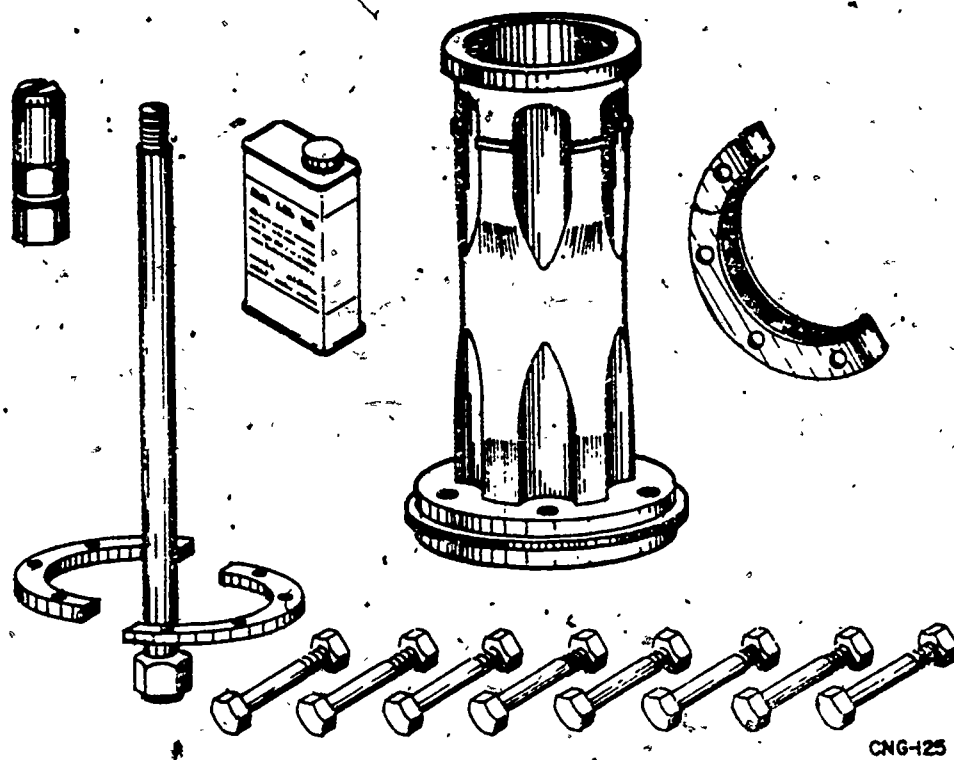

Figure 7-7 Hydrant extension kit
*Extending the height of a hydrant.* Occasionally, it may become necessary to raise the height of a fire hydrant. This can be easily accomplished by the use of an extension kit. (See fig. 7-7.) The extension kit consists of an extension barrel, an extension stem and the necessary bolts, nuts, and gaskets. Extension kits come in increments from 6 inches to 4 feet.
**Exercises (466):**